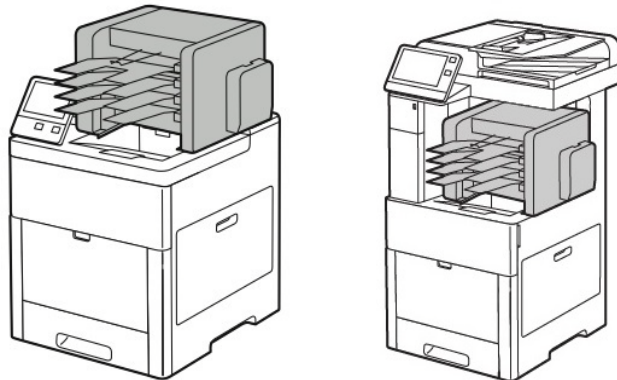

Figure 8 Mailbox (C600 C500/C600 and C605_Tall)
- Figure 8, Table 12, Mailbox (C600 and C05_Tall)